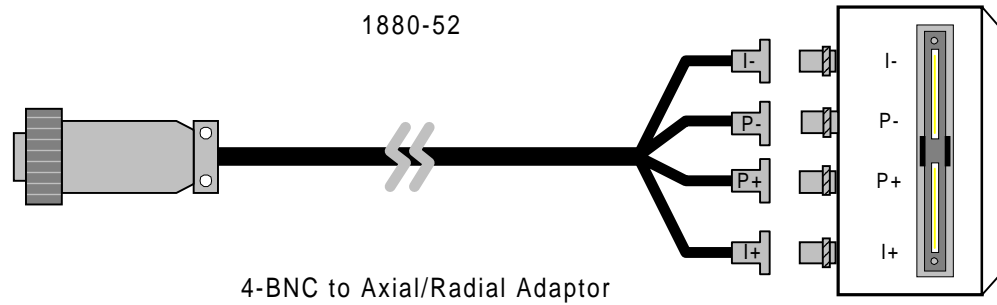

Figure 2-8: Fixture & Cable Connection
- Connect the other end of the cable (4-BNC connectors) to the fixture as shown in Figure 2-8. Observe cable and fixture markings.